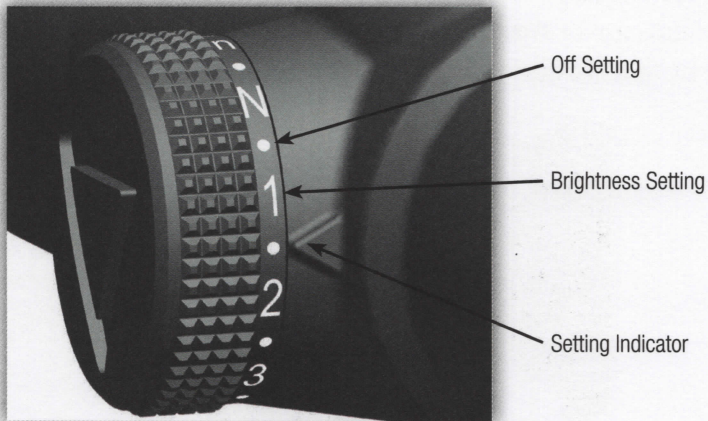

FIGURE 21 - 1-8x28 VCOG Shown
The brightness adjustment dial is located on the left side of the housing (**Figure 21**) and is equipped with an *Off Setting* in between each of the brightness settings. This enables the user to easily and quickly switch the unit on or off. The brightness adjustment for the 1-6x24 riflescope has 6 settings, (1) being the dimmest and (6) the brightest. The 1-8x28 VCOG riflescope has 9 daylight brightness settings and 2 night vision settings (n) being the dimmest and (9) being the brightest. Turn the adjustment dial to the preferred brightness setting depending on the ambient lighting condition.